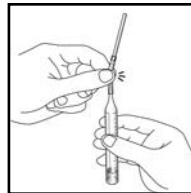

Figure 2
2. Snap the tip of the ampoule at the black snap ring (fig. 2).